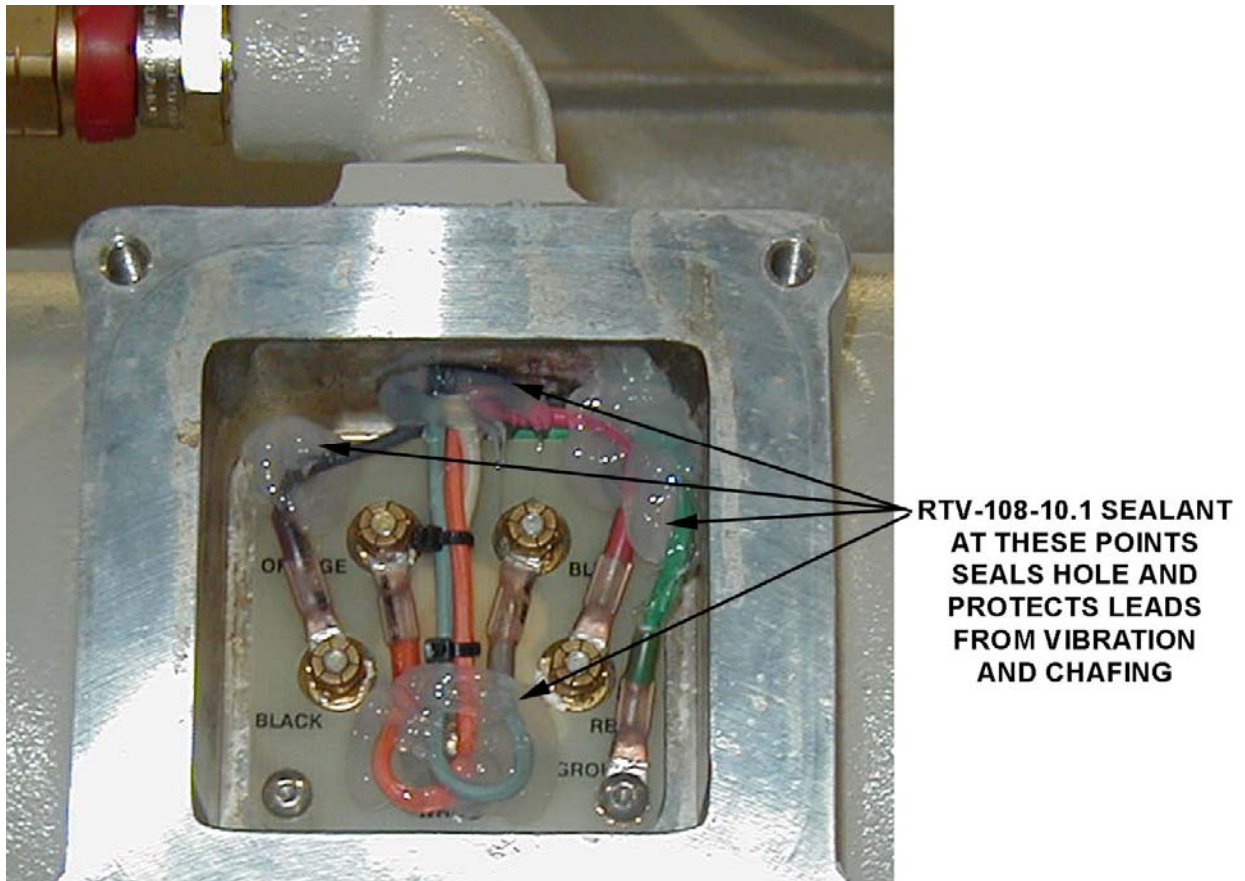

Figure 7-3 RTV Sealant Application
7. Apply RTV-108-10.1 silicone sealant to leads (Figure 7-3) for vibration-proofing. Also, be sure to fill threaded hole for additional protection against chafing.